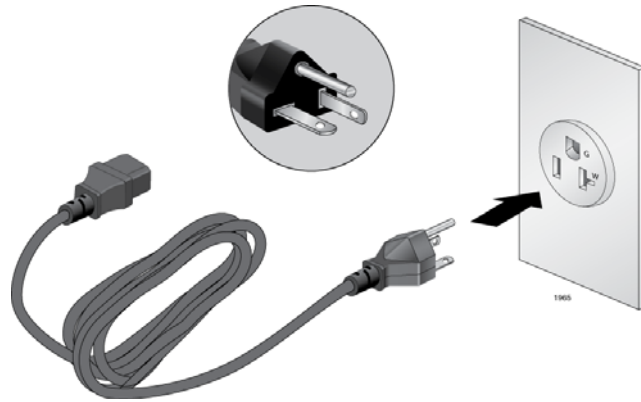

Figure 24. 100 - 125 VAC 125 V NEMA 5-20 Plug and Receptacle
- The power cords provided with the AT-SBxPWRSYS1, AT-SBxPWRSYS2, and AT-SBxPWRPOE1 Power Supplies for 100-125 VAC installations have 20 Amp, 125 V NEMA 5-20P plugs. The plugs are only compatible with NEMA 5-20R receptacles. See Figure 24 on page 79.